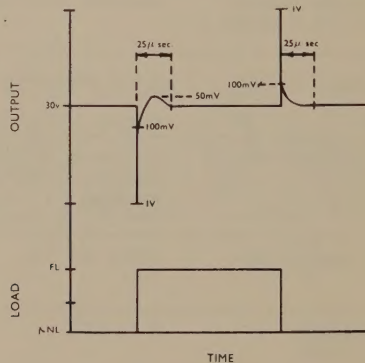

Fig. 1. Pulse Response
- The typical response to a pulsed load is shown in fig. 1.